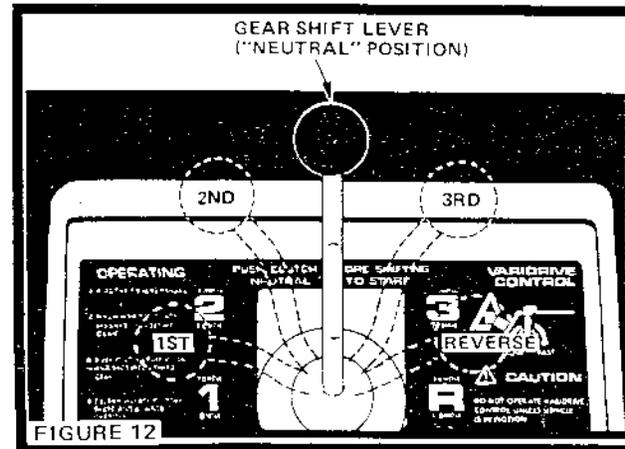

FIGURE 12
3. Place Gear Shift Lever in "NEUTRAL", start position (Fig. 12).
3. Move Gear Shift Lever to desired gear (Fig. 12).
For pushing or towing your tractor, place Gear Shift Lever in neutral position (Fig. 12). NOTE: DO NOT TOW YOUR TRACTOR FASTER THAN SIX MILES PER HOUR.